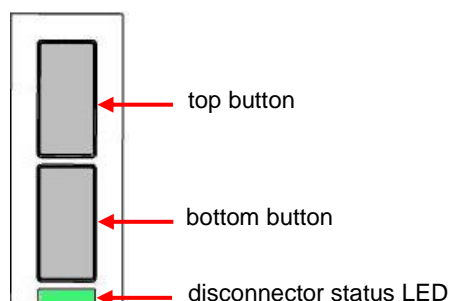

Figure 88: Top and bottom button, and disconnecter status LED
Figure 88), top (key 1) and bottom (key 2). By a customer choice, the bottom button can be sealable. The meter additionally supports two external keys (only with appropriate HW configuration; see Table 8).
Figure 88). It is used to indicate disconnecter status information. A using of the disconnecter status LED can be enabled or disabled by **Display configuration** object (0-0:196.1.3*255), attribute 7. When its use is enabled and the LED: